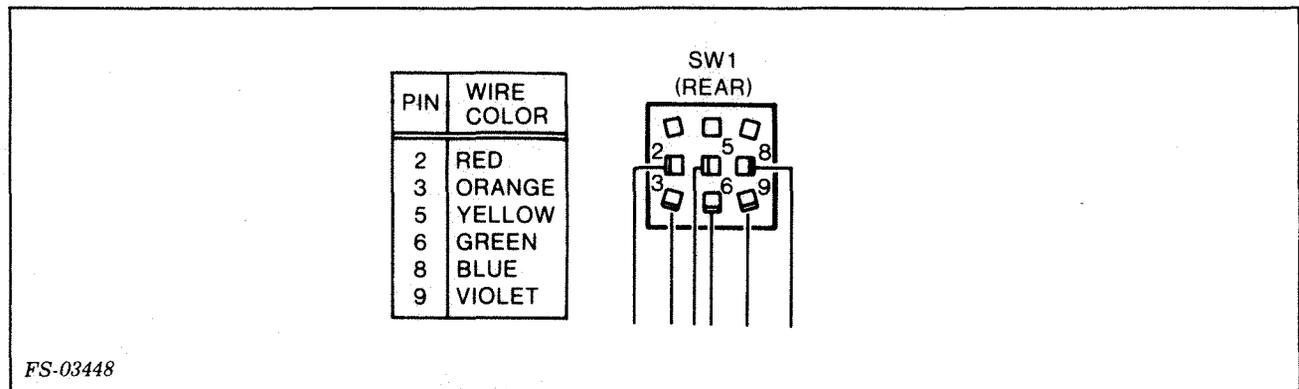

Figure 4-2. Power Switch Wire Connections
6. Check the wire connections on the power switch. Verify the wire connections as shown in Figure 4-2.